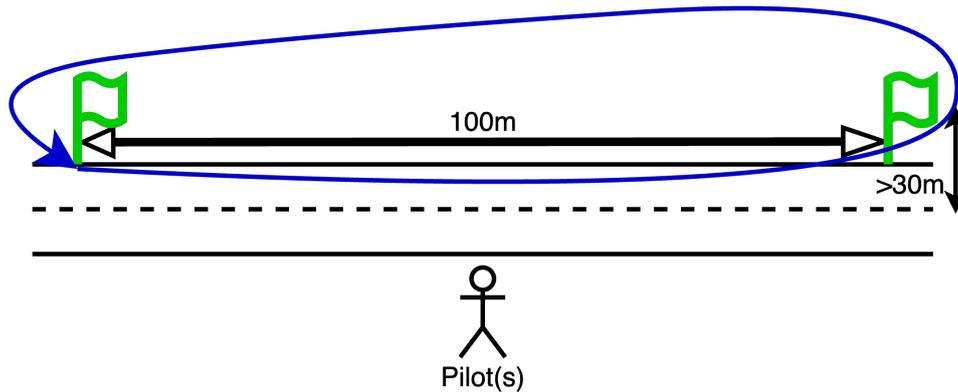

Figure 5.1: Flight performance event lap.
2. The circuit for this event consists of an approximately 2 km long pattern of 10 down-wind and 10 up-wind legs, flown as shown in Figure 5.1. Throughout the whole circuit, a minimum height of 30 m must be maintained. The circuit starts whenever either flag is passed, with the aircraft flying above the minimum height.